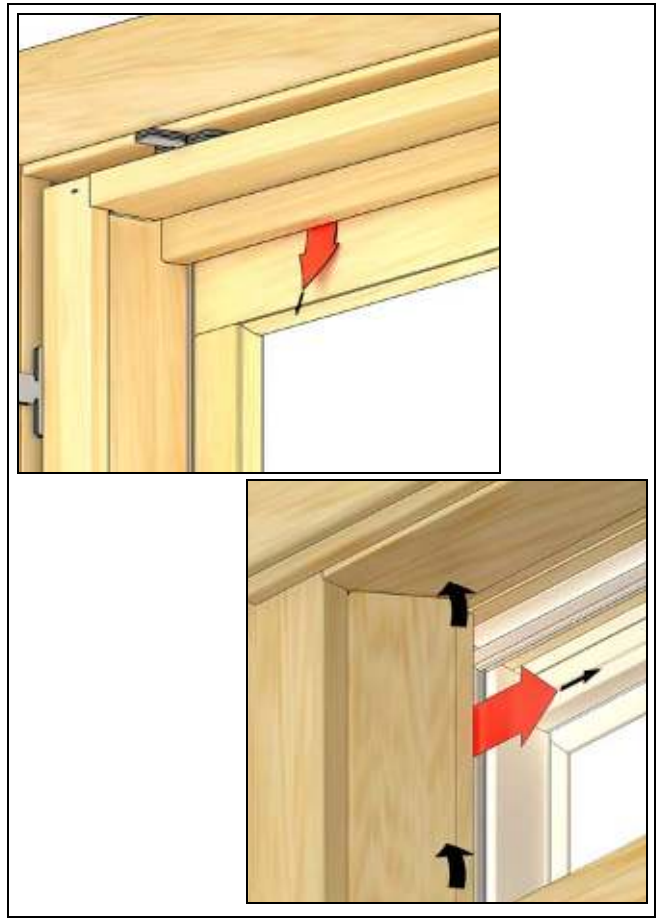

Figure 13
4. Tilt bottom sash. Remove the head jamb stop (labeled with a 1) and then remove all covers (labeled 2 and 3). If necessary place shims under sill of unit to level. Level unit horizontally from jamb to jamb at sill of unit. See Figure 13. Units with a retractable screen will not have a tab.